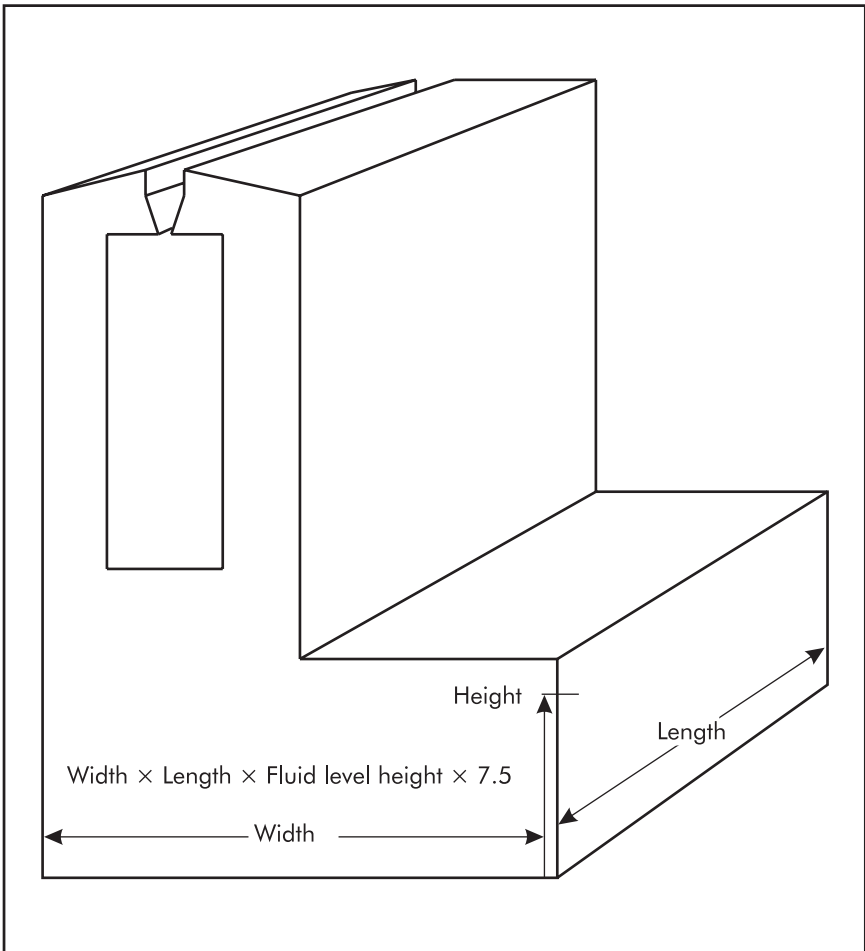

Figure 7-5. Determining initial tank charge.
- Multiply the tank width by the tank length by the fluid level height and multiply by 7.5 (because there are approximately 7.5 gallons of fluid in a square foot [40.75 liters of fluid in a square meter]). This results in the total square feet (square meters) of fluid in the tank (see Figure 7-5).